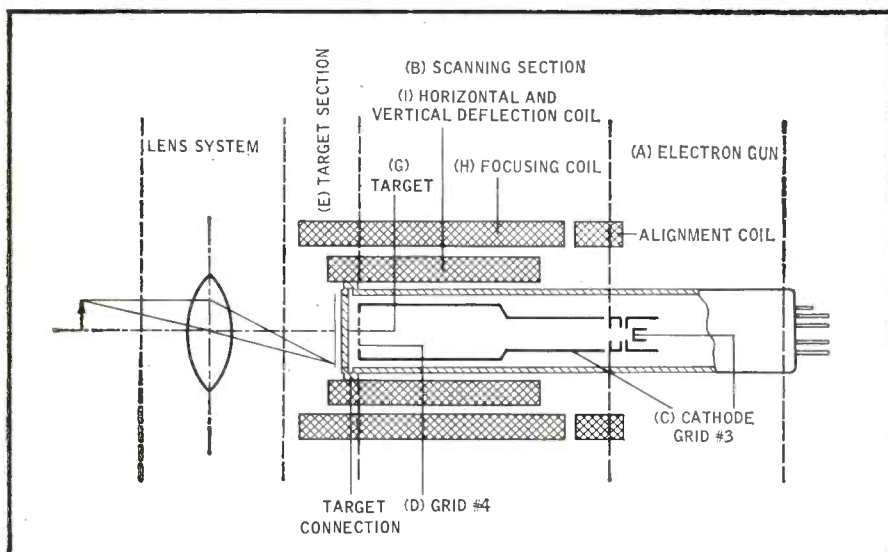
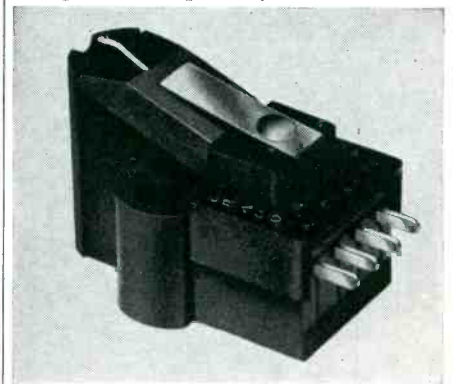

Fig. 1. Cross-sectional diagram of a Vidicon tube such as is commonly used in TV cameras used with video recorders.
Fig. 2 The Grado "B" phono cartridge.
The reflected light rays from the object or image to be recorded are picked up by the lens system of the video camera, pass through it, and are focused and projected onto the vidicon tube. This tube consists of three basic sections as illustrated in Fig. 1: an electron gun (A) which emits electrons in the form of an extremely fine beam; a scanning section (B), consisting of a cylinder (C) closed at the far end by a fine metal mesh screen (D) in which the movement of the electron beam from the gun is controlled, and a target section (E) on which the optical image of the scene or object to be recorded is focused. The target section illustrated in Fig. 2 consists of a photo-conductive layer (J) deposited on a transparent conducting film (K) on the inner surface of the tube's glass face-plate (F).
Fig. 2. Section of the Vidicon showing the relation between the face plate, transparent conductive film, the photo-conductive layer, and the signal electrode—all in the target section of Fig. 1.
The target section (E) of the vidicon tube illustrated in Fig. 2 is formed by evaporating a photo-conductive material, such as amorphous selenium, onto the inner surface of the glass faceplate which has been coated previously with a transparent conductive film.
The electrons deposited on the scanned surface of each individual element of the layer cause a change in the difference of potential between the two surfaces of that element. When these two surfaces of the element are connected through the external target connection (signal electrode), (L) in Fig. 2, and the scanning beam, a current is produced which is then used to develop the video signal voltage.